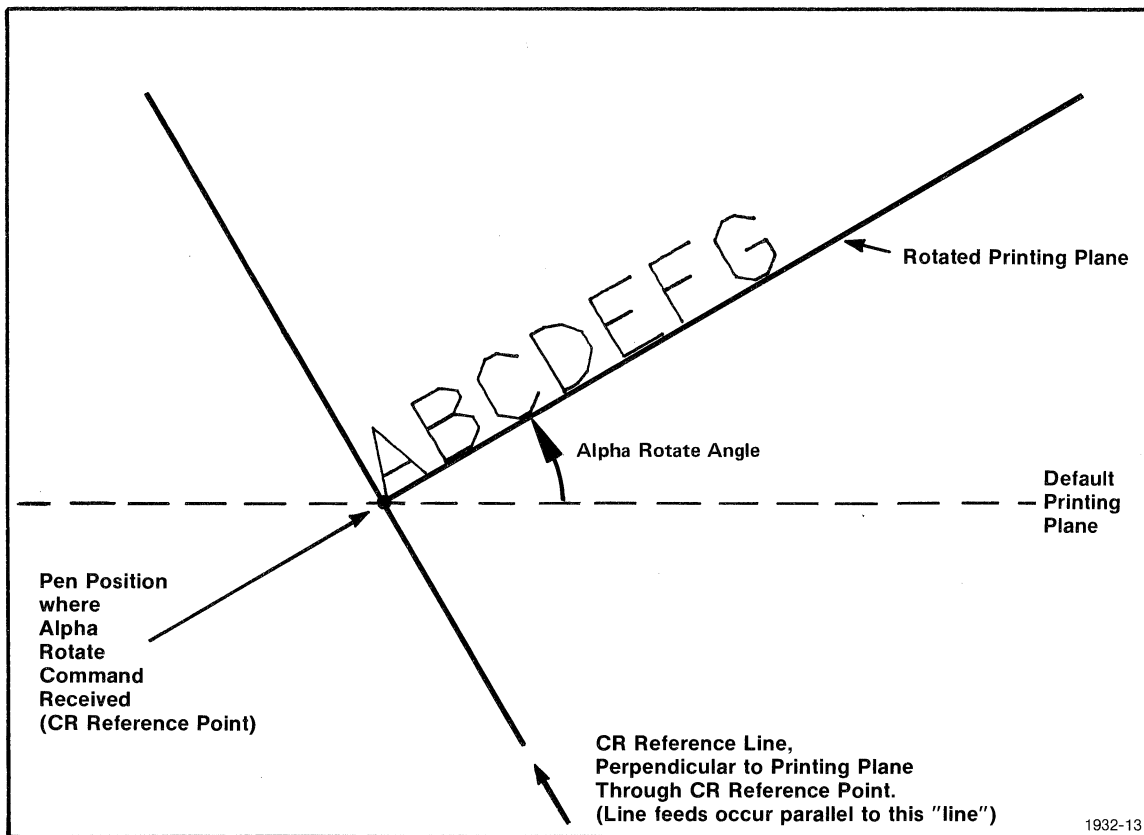

Fig. 2-10. Alpha Rotate, showing the new Carriage Return/Line Feed references.
In addition, an Alpha Rotate command sets the current pen position as the carriage return (CR) reference point in a line perpendicular to the rotation angle set. This is used for CR, LF, and VT commands encountered in Alpha operations. Refer to Fig. 2-10.